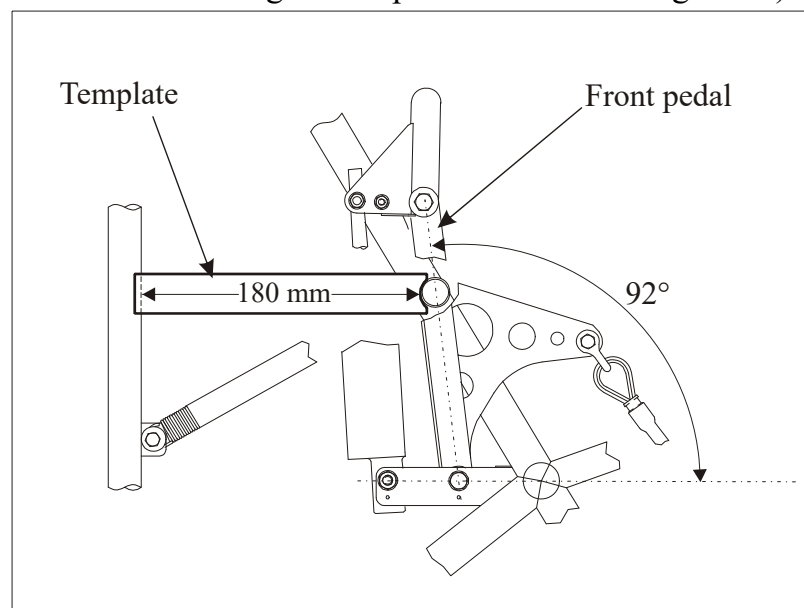

Figure 17 Front Pedal Template
- 23 Fix the front pedal in almost vertical position (92° relative to the footrest using the template as shown on Figure 17).